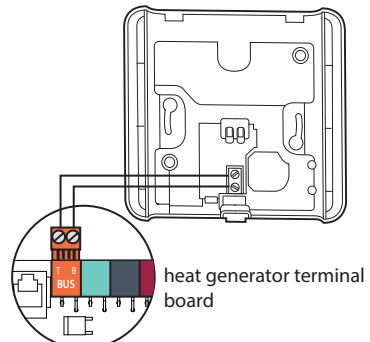

Figure 12 - Wire the Room Sensor to the BUS Terminal
- Connect the room sensor wire to the BUS terminal on the boiler terminal board (Figure 12).